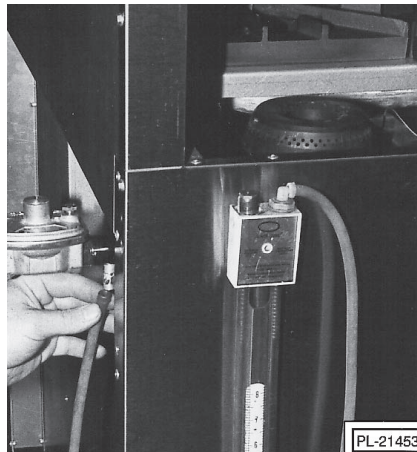

Fig. 9
1. Connect the manometer to the pressure tap provided on the manifold pipe near the regulator (Fig. 9).
1. Connect the manometer to the pressure tap provided on the rear manifold pipe (see Fig. 9).